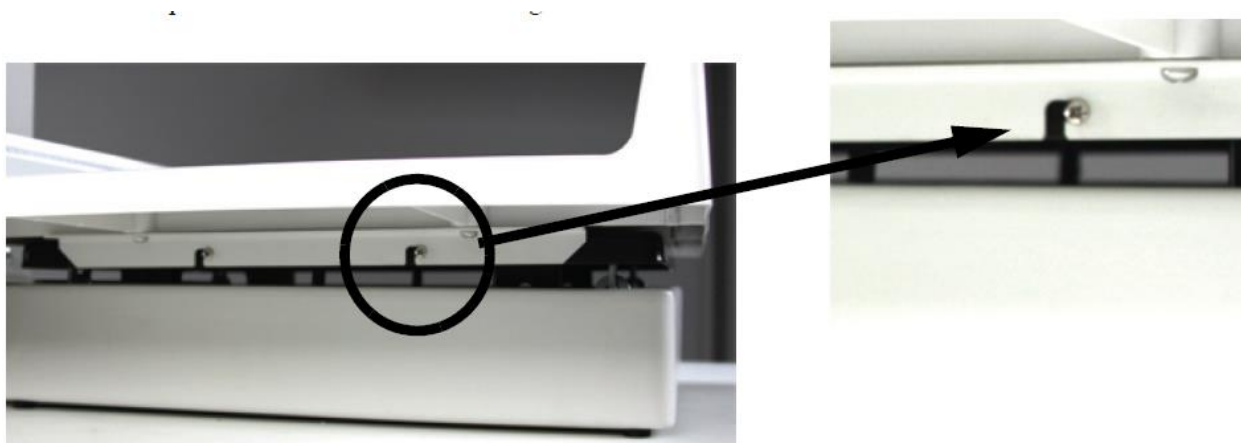

Figure 3-1. Weigh Platter Screw Hole Location
2. Line up the screw holes as shown in Figure 3-1.